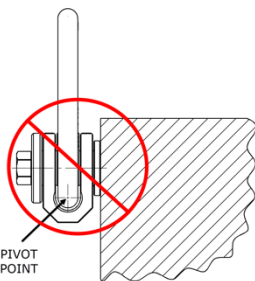

Fig 7
- When pulling SP2000 hoist ring installed on a side of the lifted object the pivot point MUST be above the bolt axis (Fig.7).